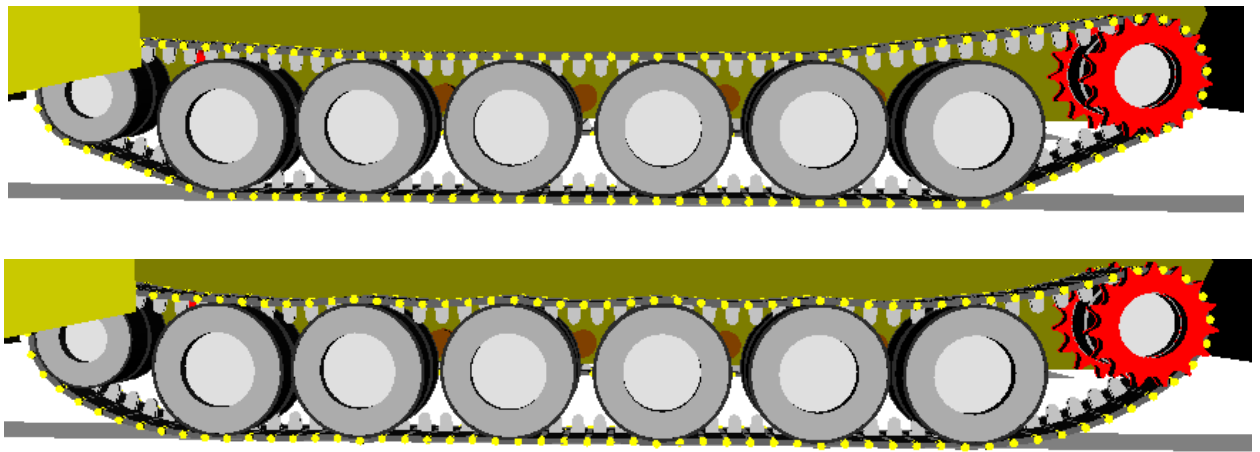

Figure 2.6. Track before and after the equilibrium test
5. Read the saved file by the  button on the **Initial conditions | Coordinates** tab of the inspector. Set zero values for velocities by the  button. It is recommended to save the found coordinates in a file by the  button for the next tests. Positions of track bodies before and after the test are shown in Figure 2.6. Remember that the necessary track tension is still not set.